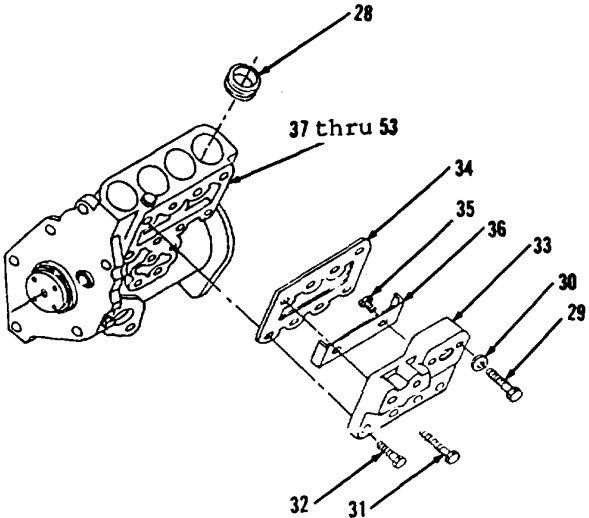
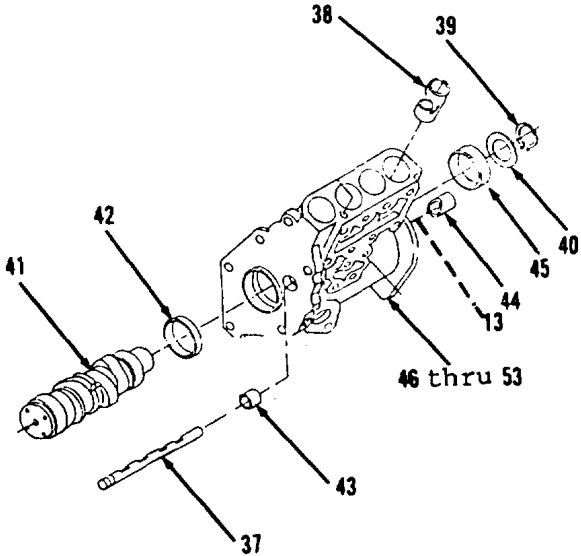

Figure 3-90.
Figure 3-91.
- 14. Remove four spacers (28) from each of four cylinders in pump housing (53, Figure 3-90).
- 15. Remove two bolts (29), washers (30), bolts (31), four bolts (32), cover (33) and gasket (34). Discard gasket (34). Remove all gasket material from mounting surfaces.
- 16. Remove two bolts (35) and deflector (36) from cover (33).
- 17. Remove items 37 thru 53 as an assembly.
- 18. Remove rack (37) from housing (53, Figure 3-91).
- 19. Using a magnet, remove four lifters (38).
- 20. Using snap ring pliers, remove ring (39).